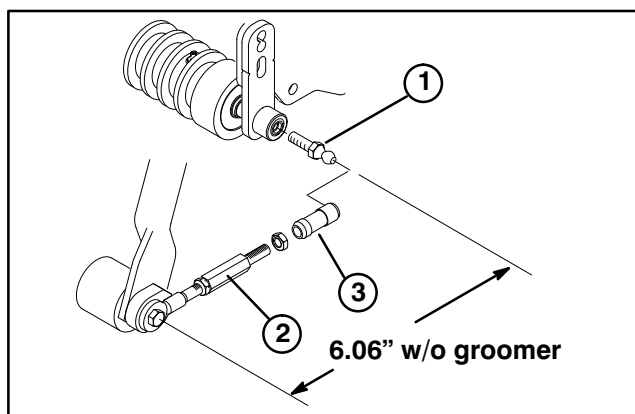

Figure 12
4. Thread a ball stud into each end of cutting unit front roller (Fig. 12).
6. Slide sleeve back on each ball joint receiver and hook onto cutting unit ball studs (Fig. 12).
Note: Pull link assemblies are preset at the factory. If they ever need to be disassembled, reassemble to the dimensions shown in figure 12.